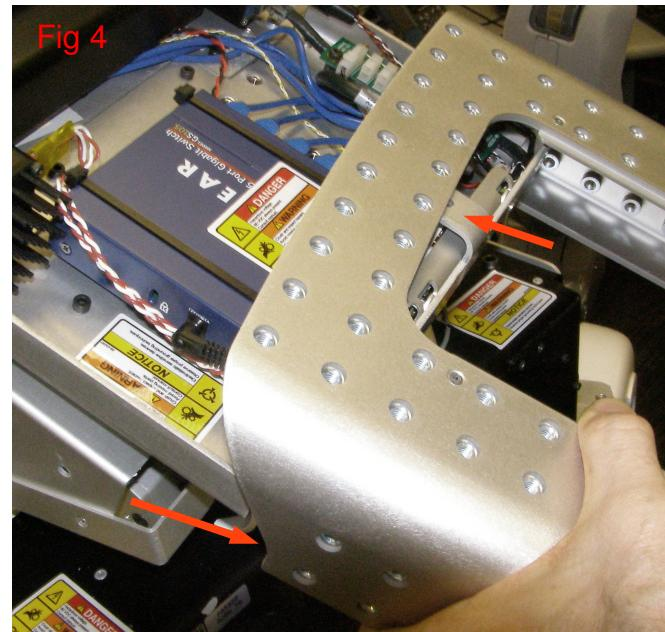

Fig 4
- 5. Tilt the Head all the way back and angling the Bonnet slightly slide it back off of the Head, making sure it clears the screw mounting tab. (Fig 4)